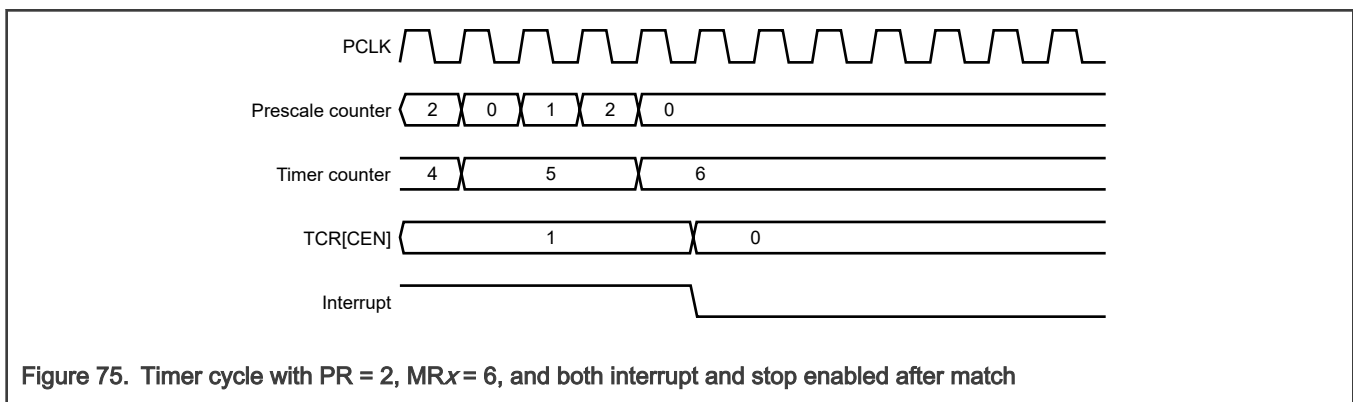

Figure 75. Timer cycle with PR = 2, MRx = 6, and both interrupt and stop enabled after match
Figure 75 shows a timer configured to stop and generate an interrupt after a match. The value of **Prescale (PR)** is 2 and the value of **Match (MR0 - MR3)** is 6. In the next clock after the timer reaches the match value, **TCR[CEN]** becomes 0 and the interrupt indicating that a match has occurred is generated.